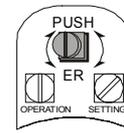

Fig. 8.4.1
- Disengaged **PUSHER SHAFT**: With a suitable screwdriver press the 'PUSHER' selector 3 mm and turn it 45°, ensure that it does not return to its original height (See figure 8.4.1)
- Note: Pusher shaft allow to engage/disengage the switching and signalling unit from Electric actuator gears. (Figures 8.4.1 and 8.4.2)
- Disengaged PUSHER SHAFT: With a suitable screwdriver press the 'PUSHER' selector 3 mm and turn it 45°, ensure that it does not return to its original height (See figure 8.4.1)